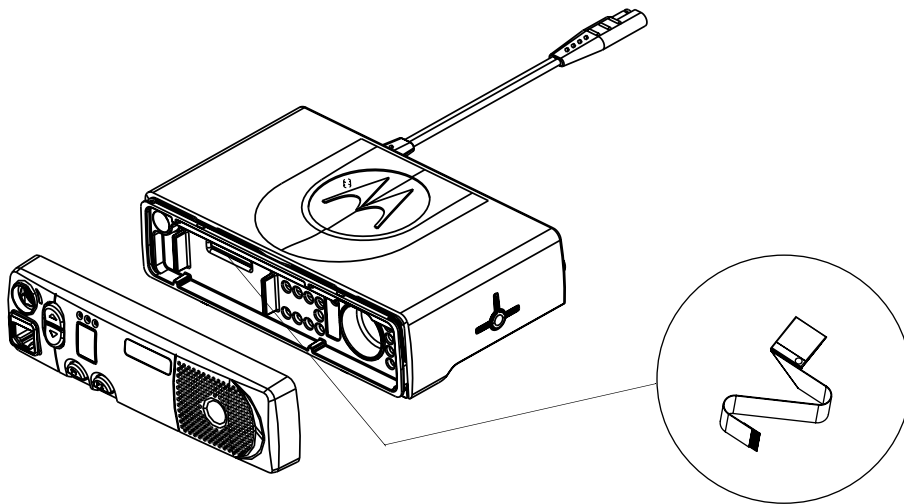

Figure 2-3 Flat Cable Removal
3. To free the head, disconnect the flat cable from the chassis assembly See Figure 2-3.